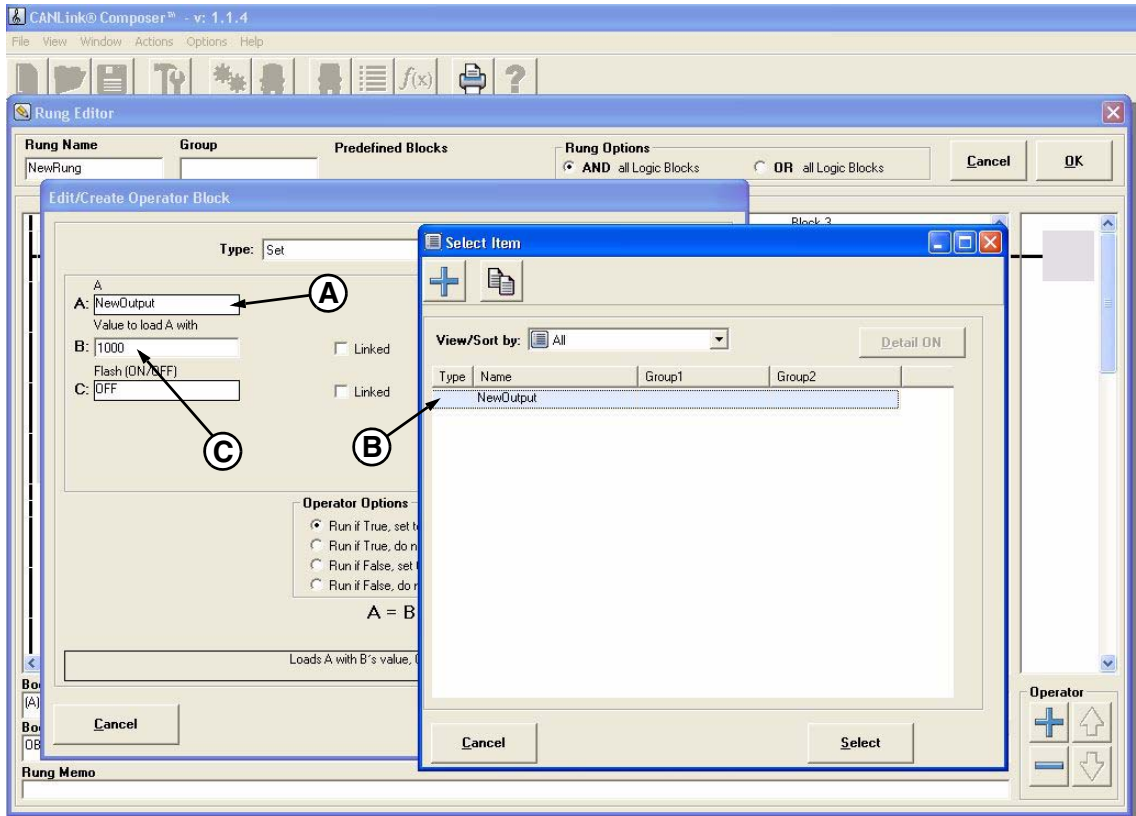

Figure 23
33. Double-click text box A: **(Figure 23, A)** to open the **Select Item** window. Select “NewOutput” **(Figure 23, B)** and click the *Select* button. “NewOutput” will be added to text box A: **(Figure 23, A)** and a third text box will appear named *Flash (ON/OFF)*.
34. Enter “1000” in text box B: **(Figure 23, C)**. Entering “1000” will turn the PWM Output on, 100.0% duty cycle.